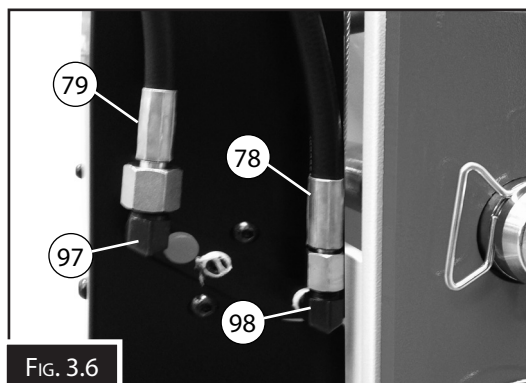

FIG. 3.6
3. Remove the plug of connector (#97 #98) and oil hose (#78 #79), then connect the oil hose 1 (#78) and oil hose 2 (#79) to connector (98) and connector (99) and tighten it. (Fig. 3.6)